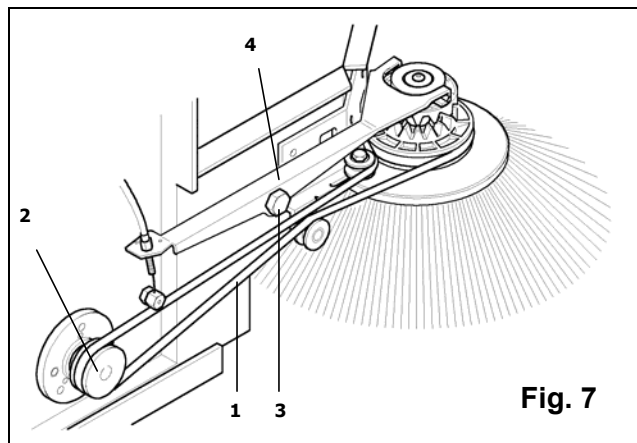

Fig. 7
- Hook side arm **pos.4 Fig.7** to the idle toothed ring.
- Tighten pin **pos.3 Fig.7**.
- Using the key cod. 9001451 (not included in the supply) stretch the belt **pos.1 Fig.7/A** and put it again on the pulley **pos.2 Fig.7 /A**.